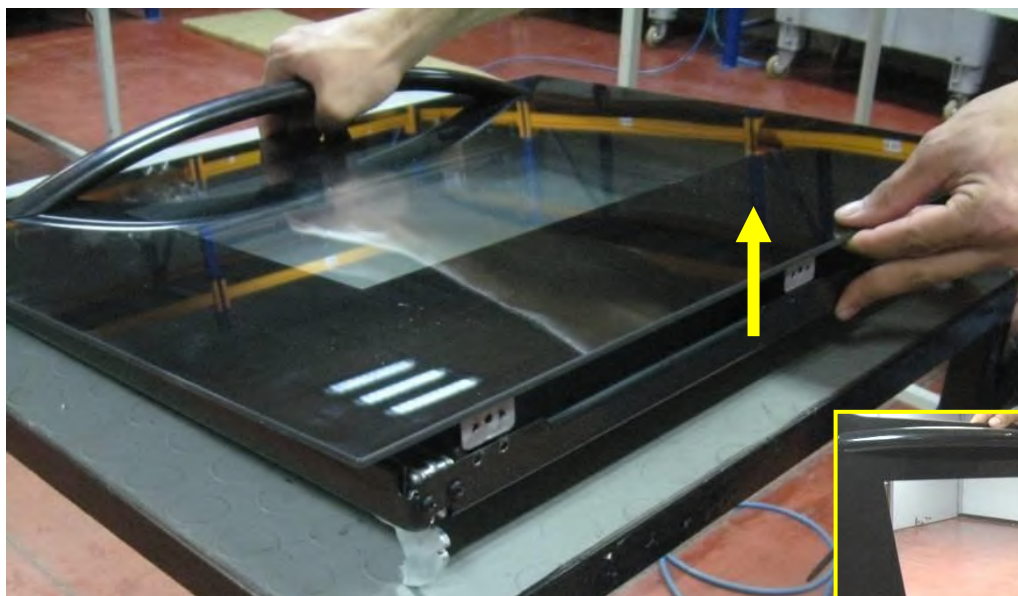

Fig.1
- Hold the outer glass (Fig.1) up slightly and remove